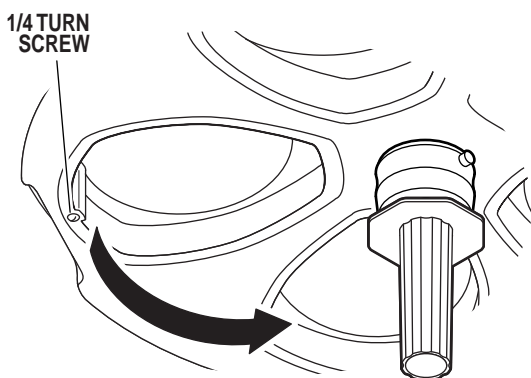

Figure 19.
1. Hold the diffuser/filter assembly with one hand, loosen the "1/4-turn" screw and lower the diffuser/filter assembly. See figure 19.